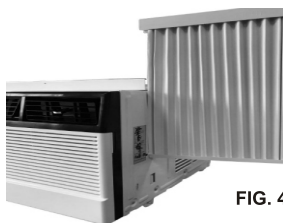

FIG. 4
- B. Slide the free end of the panel into the cabinet as shown in Figures 4. Slide the panel down. Be sure to leave enough space to slip the top and bottom of the frame into the rails on the cabinet.